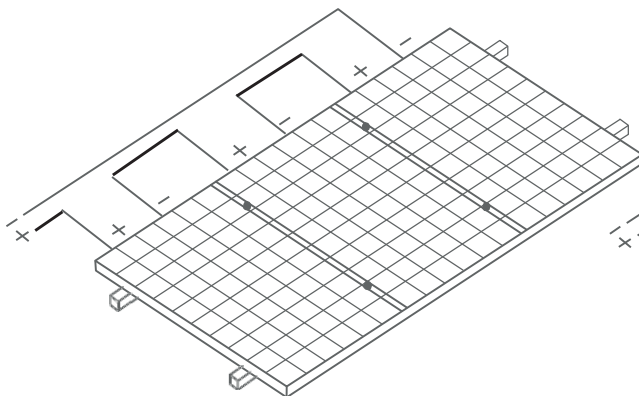

Figure 7 Connection in Series
- It is not allowed to use the Modules in different models in the same solar photovoltaic system. When the Modules are connected in series, the voltage of every string shall not be higher than the maximum voltage of the system (as shown in Figure 7). Reference equation of the maximum number of the Modules in serial connection: $\text{maximum system voltage of the module} / (1.25 * \text{open-circuit voltage})$.